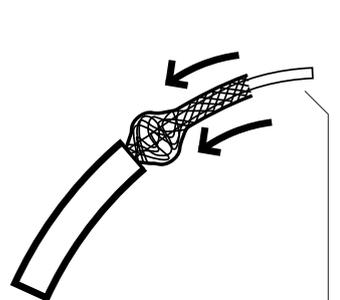

Fig. 2
1. Shut off power to the outlet box (A).
2. Install the mounting plate (B) to the ceiling under outlet box (A) with included screws (C).
3. Install aircraft cable (D) from Section 1 to grippers (E) on mounting plate (B) (Figure 2). Make sure that the power feed is properly aligned with mounting plate and that cords and cable are fed through the canopy (F).
8. Similar to Step 3, install Section 2 to canopy (F) by installing aircraft cable (D) into the grippers (E). Level Section 1 and Section 2 so they are identical (Figure 2).
3. Slide the outer braided conductor back to create a bulge and reveal the inner stranded conductor (Fig. 2).